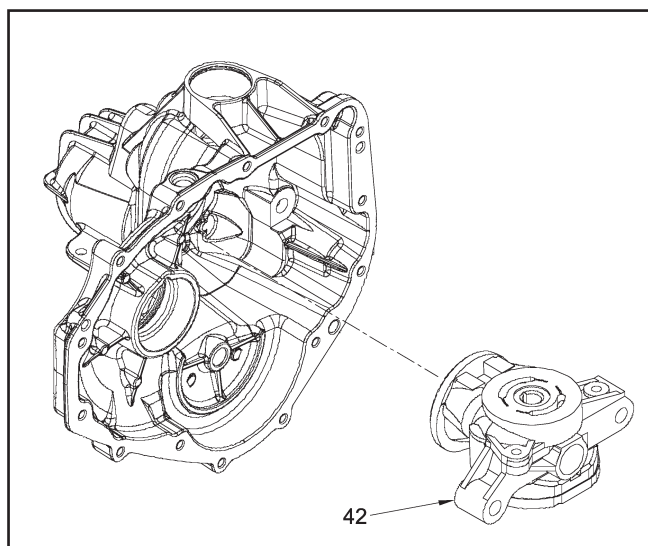

Figure 16
14. Remove the center section and filter assembly (42, Figure 16).